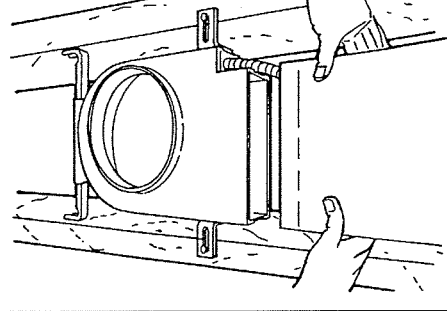

FIG. 11
4. After finished ceiling is installed, install motor and plug in. Spin blade by hand to make sure that blade does not strike anything in housing (FIG. 11).
4. Después de se haya instalado el techo acabado, instale el motor y el enchufe. Gire la paleta con la mano para comprobar que no golpea contra algo en la carcasa (FIG. 11).